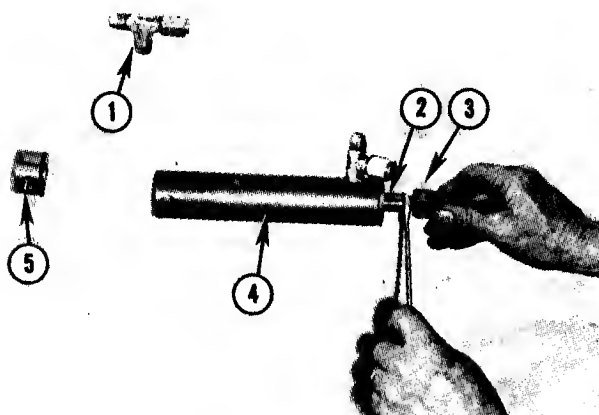

FIG. 5.9--DISASSEMBLY OF TYPICAL LIFT CYLINDER
1. Remove the fitting from the plug end of the cylinder and remove the hitch fitting from the piston rod (Figure 5.9).